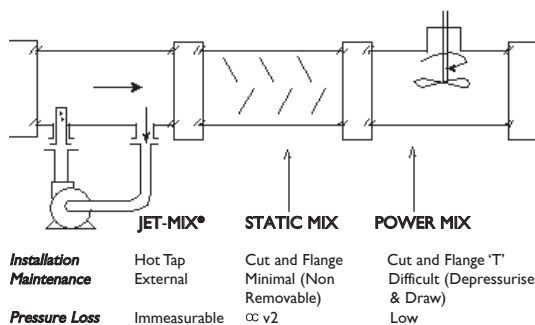

Figure 1. Comparison of Mixing Systems
If the pipeline velocity is adequate the homogeneity of the cross section is assured by natural turbulence; these considerations are discussed in another paper (see ref. 1). Where natural turbulence is insufficient, the distribution may be improved by using in-line static mixers, motor driven shear mixers (similar to tank mixers) or alternatively jet mixers. Fig 1 details the comparative limitations of these solutions.